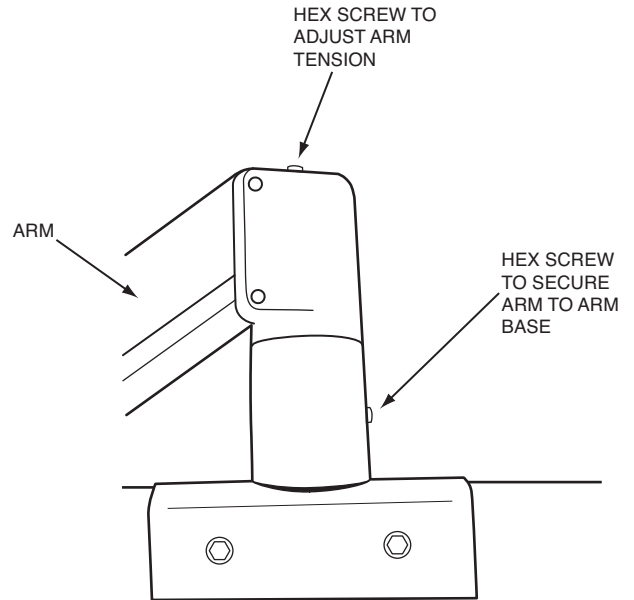

Fig. 6 — Adjust Arm Tension
- Using a hex screwdriver, secure the arm from pulling out of the mount by tightening the hex screw on the side of the mount. The display screen can now be positioned to desired height. To adjust tension on the up and down movement of the arm, tighten the hex screw on the top of the arm mount (Fig. 6).